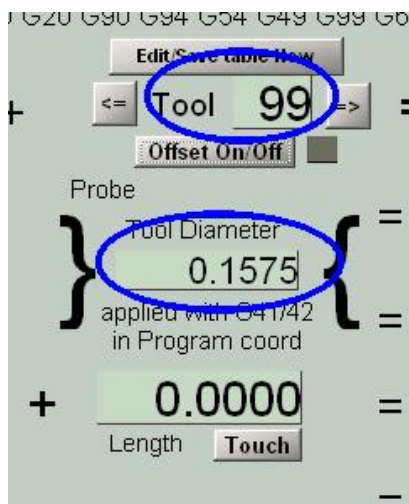

Figure 8.9 – Data for Probe (T#99)
- Enter this diameter for Tool #99 on the Offsets screen (figure 8.9). Ignore the Length for now and if it is zero then the Offset On/Off LED will not be lit. This is unimportant.